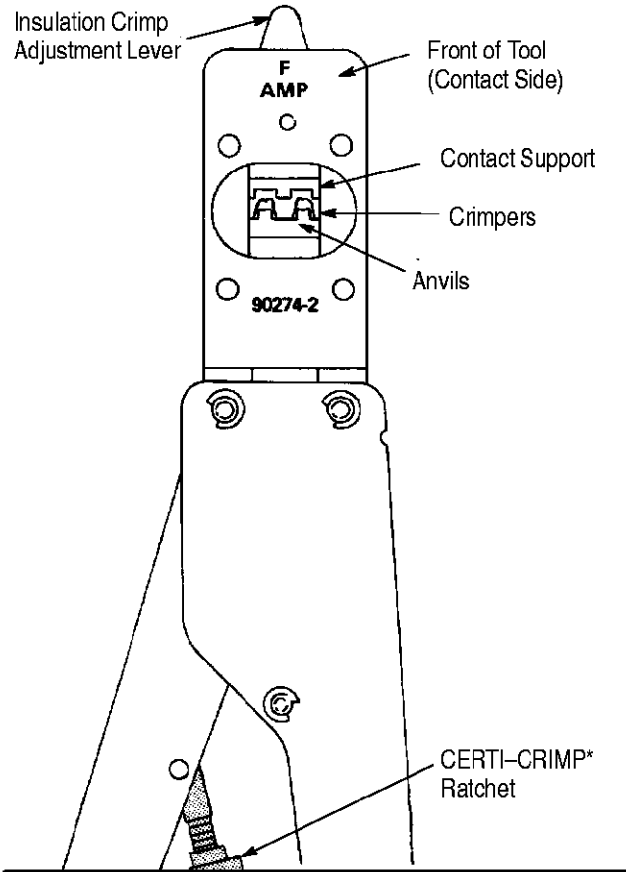

Figure 1
**2. DESCRIPTION** (Figures 1 and 3)